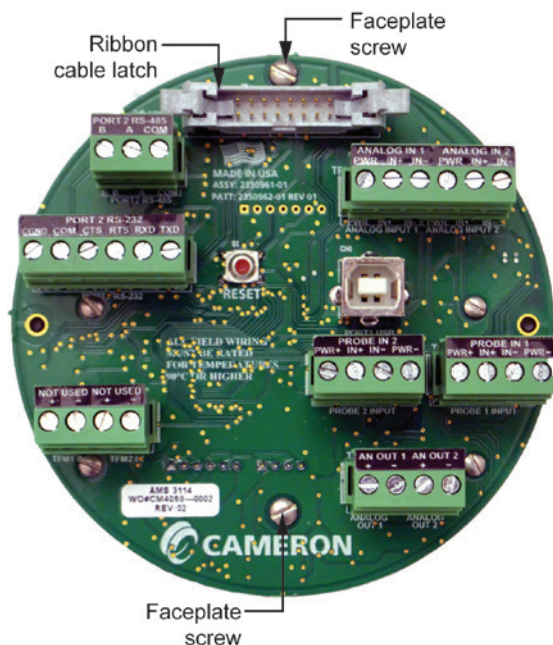
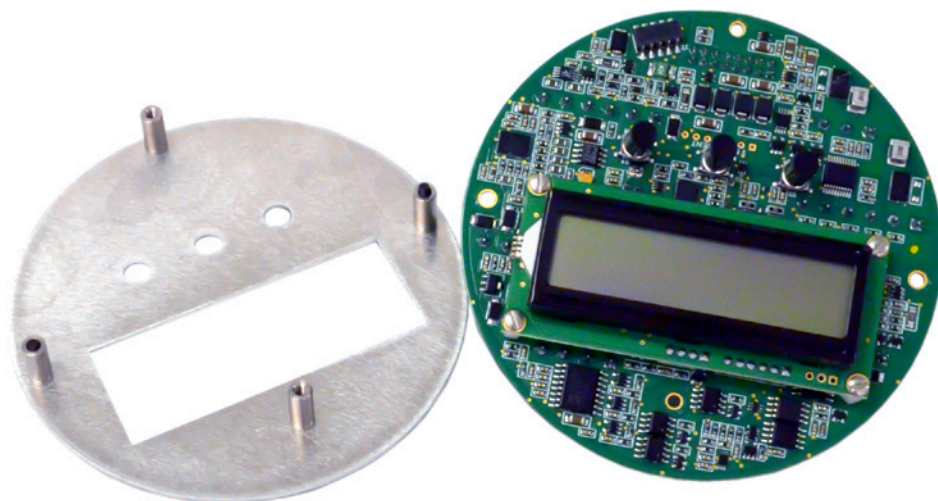

Figure 5.8—Top circuit assembly
Figure 5.9—Separation of faceplate from top circuit assembly
6. Disconnect the ribbon cable from the latched connector (Figure 5.8, Page 50) on the top circuit assembly.
7. From the terminal block side of the display circuit assembly, remove the two faceplate screws at the top and bottom of the board (Figure 5.8, Page 50) and gently separate the faceplate from the top circuit assembly (Figure 5.9, Page 50).